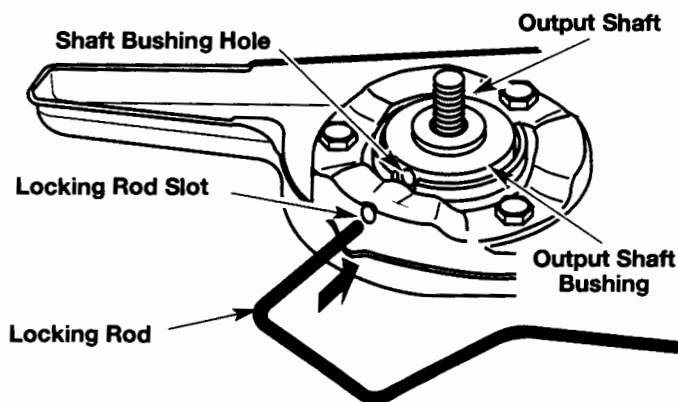

Fig. 8
1. Align the shaft bushing hole with the locking rod slot and insert the locking rod into the shaft bushing hole (Fig. 8).
6. Align the shaft bushing hole with the locking rod slot and insert the locking rod into the bushing hole (Fig. 8).
1. Align the shaft bushing hole with the locking rod slot and insert the locking rod into the bushing hole (Fig. 8).
5. Align the shaft bushing hole with the locking rod slot and insert the locking rod into the shaft bushing hole (Fig. 8). Place the blade retainer on the output shaft with the flat surface against the output shaft bushing (Fig. 15). Screw the cutting attachment counterclockwise onto the output shaft. Tighten securely.